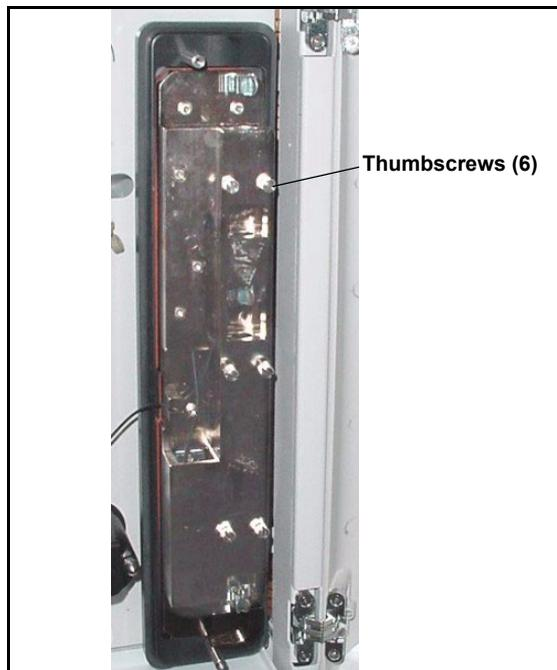

Figure 5-19. ICS-1500 Column Heater Cover Removed
- c. Unscrew the six thumbscrews on the top metal plate (see Figure 5-19) and remove the plate.